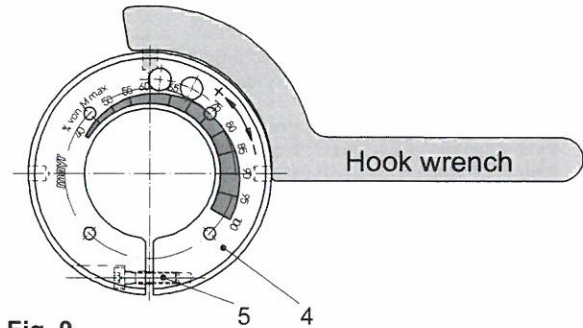

Fig. 9
- b) Loosen the locking screw (5) in the adjusting nut (4).
- c) Turn the adjusting nut (4) using the engraved adjustment scale (Fig. 9) clockwise or anti-clockwise using a hook or a face wrench until the required torque is reached.